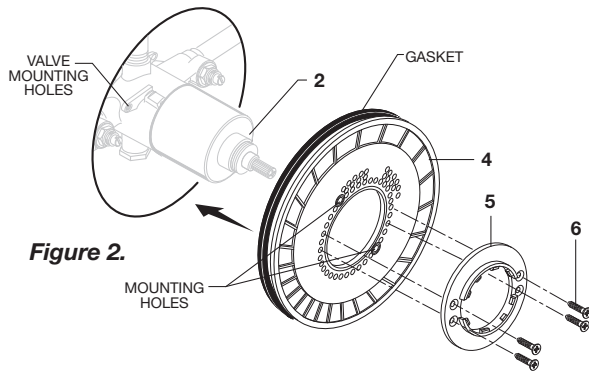

Figure 2.
- **Figure 2.** Align mounting holes and install ESCUTCHEON HOLDER (4) with gasket onto CARTRIDGE CAP (2). Mount ESCUTCHEON SUPPORT (5) to ESCUTCHEON HOLDER (4) with four SCREWS (6).